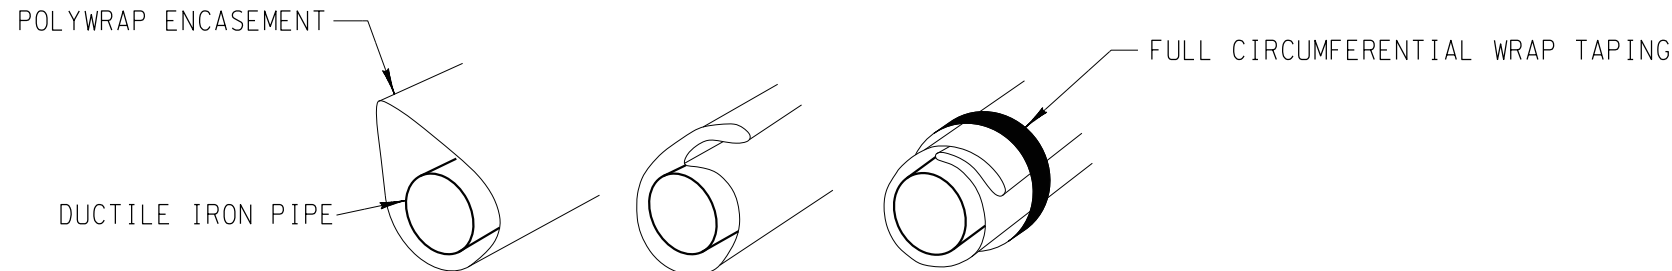

FIGURE 1 - POLYWRAP SLACK REDUCTION PROCEDURE
2. STARTING 18-INCHES FROM SPIGOT END, TAKE UP SLACK OF POLYWRAP AND TAPE POLYWRAP THE ENTIRE CIRCUMFERENCE OF PIPE AT 2 FOOT INTERVALS AS SHOWN IN FIGURE 1.